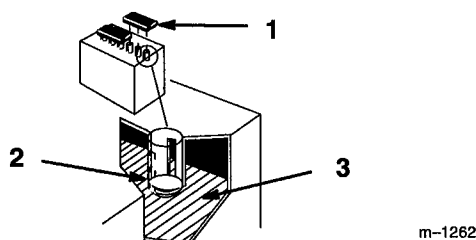

Figure 34
1. Open covers to see into the cells. The electrolyte must be up to the lower part of the tube (Fig. 34). Do not allow the electrolyte to get below the plates. (Fig. 34).
2. Lift off the filler caps (Fig. 34).
3. Slowly pour distilled water into each battery cell until the level is up to the lower part of the tube (Fig. 34).